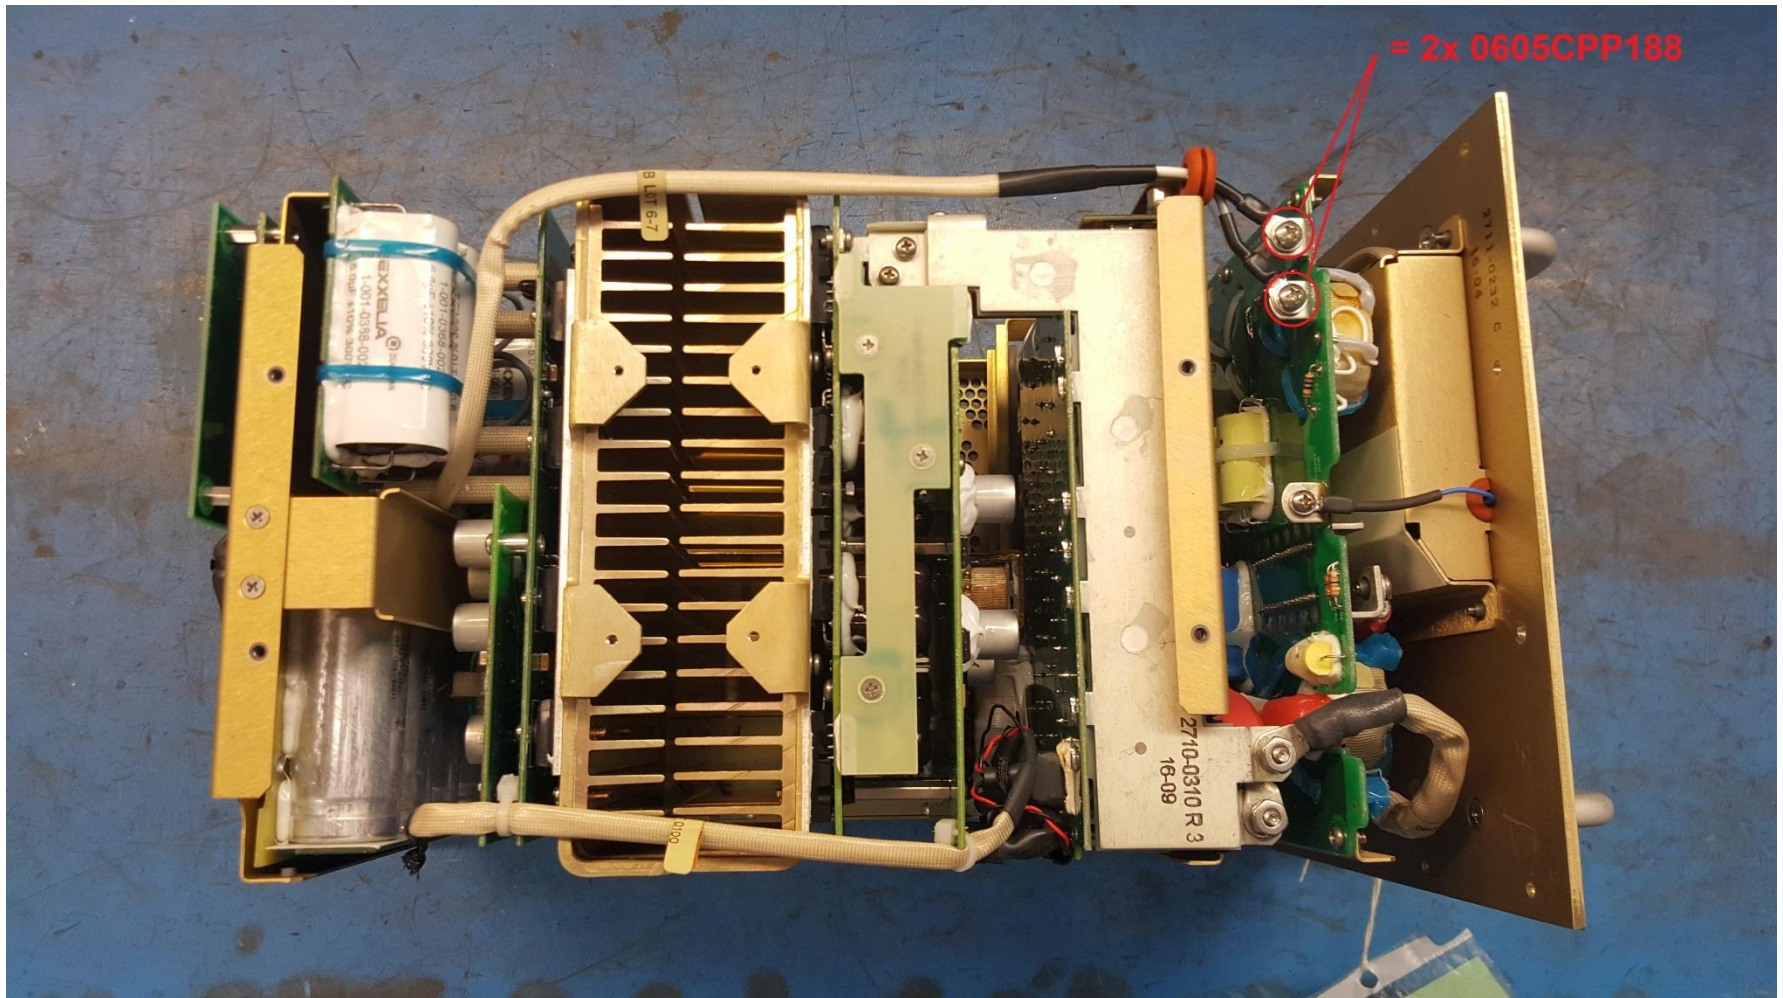

**Figure 5 - Rear Panel Screw Locations**
5. Remove (2) screws (2x MS51957-13) from the rear panel. (Figure 5).
30. Insert (2) screws (2x MS51957-13) into the rear panel. (Figure 5).